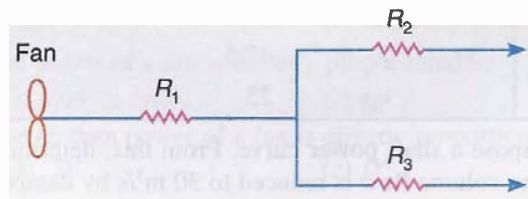

Fig. 21.20
4. A fan delivers air to a system as shown in Fig. 21.20, where